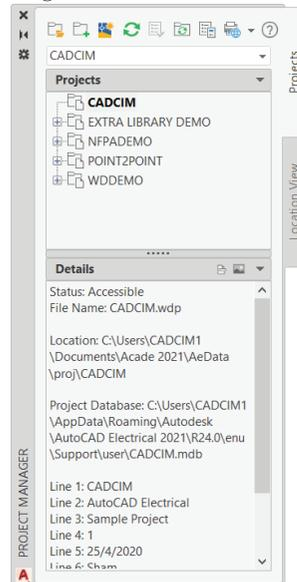

Figure 2-63 The **PROJECT MANAGER** displaying the **CADCIM** project and its description
11. Choose the **OK** button from the **Create New Project** dialog box. You will notice that the **CADCIM** project appears in bold text at the top of the project list displayed in the **PROJECT MANAGER**, refer to Figure 2-63.
13. Choose the **Details** button from the **Details/Preview** rollout. You will notice that the project description/information entered in the first nine lines of the **Project Description** dialog box is displayed in the **Details/Preview** area, as shown in Figure 2-63.